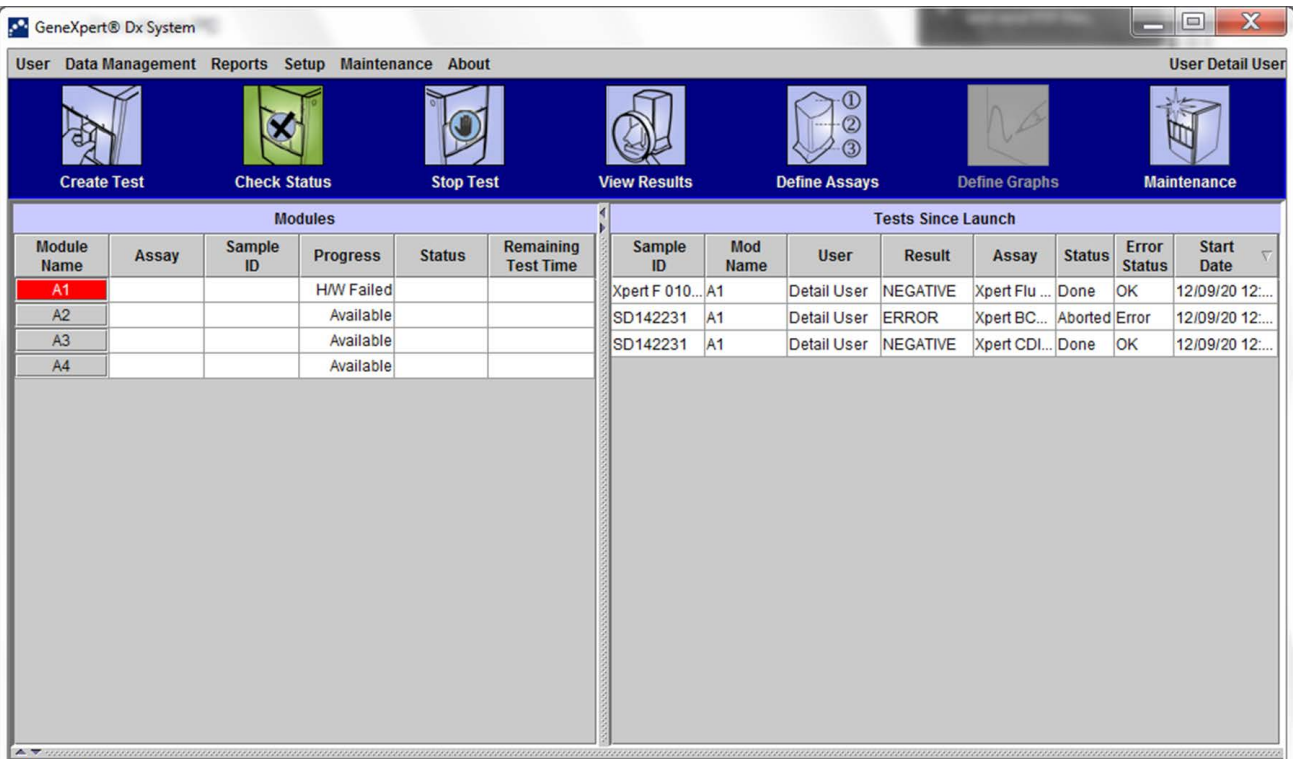
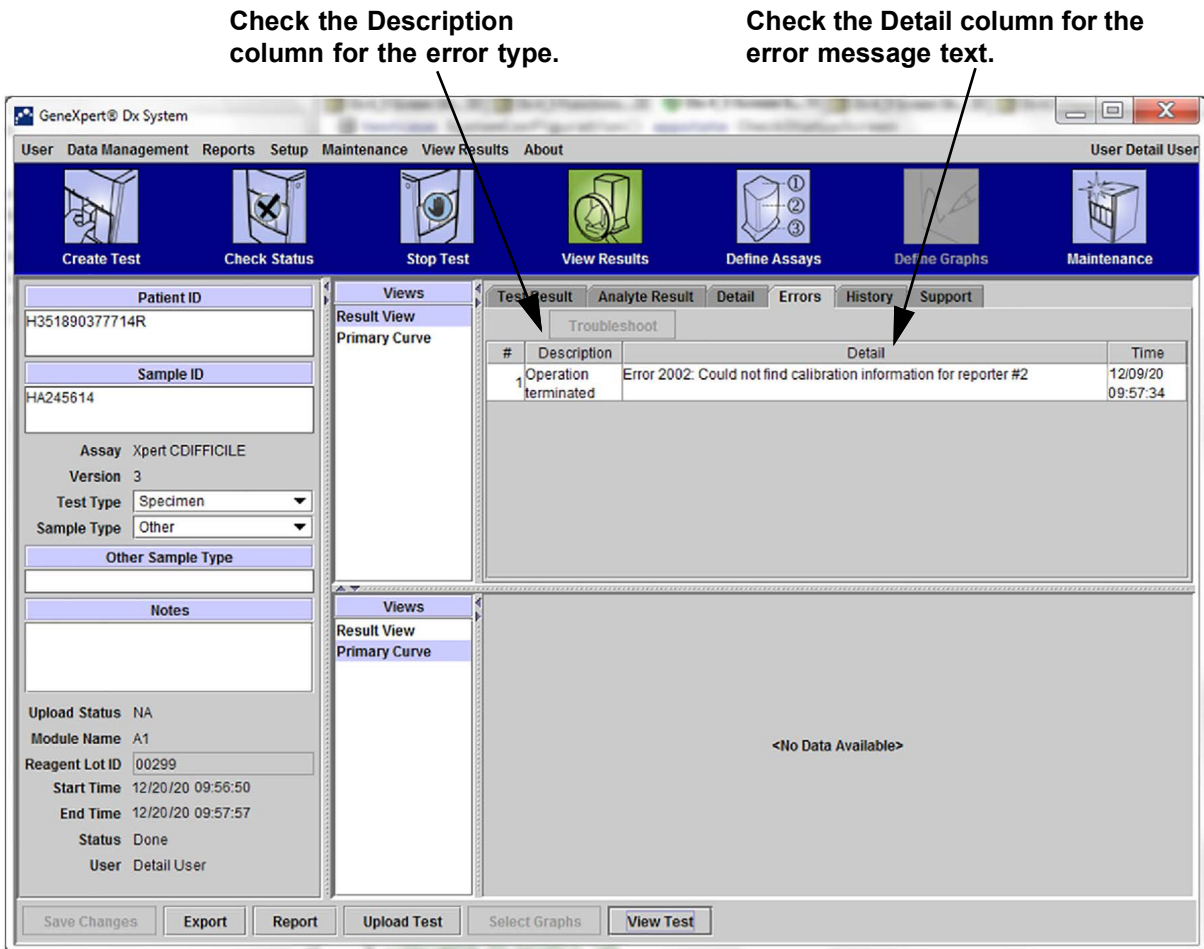

Figure 9-40. GeneXpert Dx System—Check Status Window
Figure 9-41. GeneXpert Dx System—View Results Window—Errors Tab (Detail Users and Administrator View)
- Section 9.19.2.5, Post-Run Analysis Errors—Errors that occur during the data reduction process. You can view all of the errors in the Check Status window (see Figure 9-40). Details for test-specific errors are also shown on the **Errors** tab of the View Results window (see Figure 9-41).
Table 9-3 lists errors that might appear during a test that is not aborted. Although the system was able to finish the test and save the results, some non-critical errors occurred and require attention. These error messages appear in the View Results window (see Figure 9-41). To contact Cepheid Technical Support, see the Technical Assistance section in the Preface for the contact information.
Table 9-4 lists errors that might appear when a test is aborted. The operation-terminated error messages appear in the View Results window. See Figure 9-41. To contact Cepheid Technical Support, see the Technical Assistance section in the Preface for the contact information.
Table 9-5 lists errors that might appear during a cartridge loading process. The cartridge-loading error messages appear in the Check Status window. See Figure 9-40.
Table 9-6 lists errors that might appear during the self-test process. The self-test error messages appear in the Check Status window. See Figure 9-40. To contact Cepheid Technical Support, see the Technical Assistance section in the Preface for the contact information.
Table 9-7 lists errors that might appear during the post-run analysis (data reduction) process. The post-run analysis error messages appear in the View Results window (see Figure 9-41). To contact Cepheid Technical Support, see the Technical Assistance section in the Preface for the contact information.